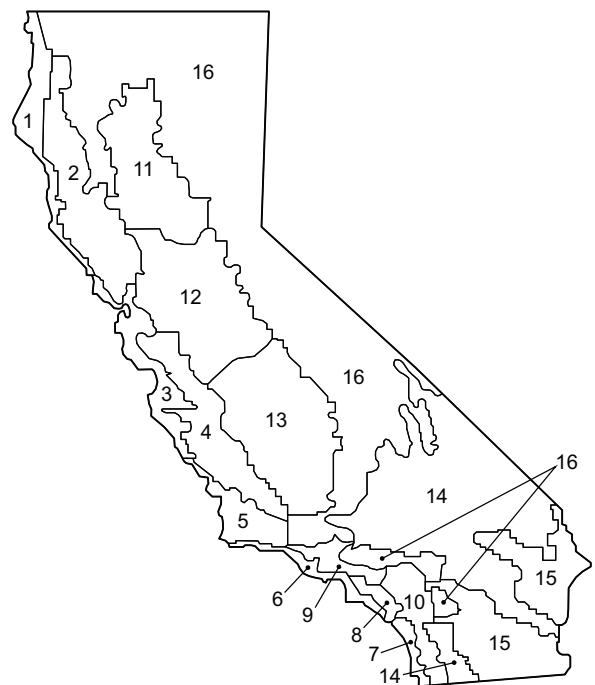

Fig. 86 — California Title 24 Zones
b. Refer to Fig. 86 for map of California Title 24 zones.